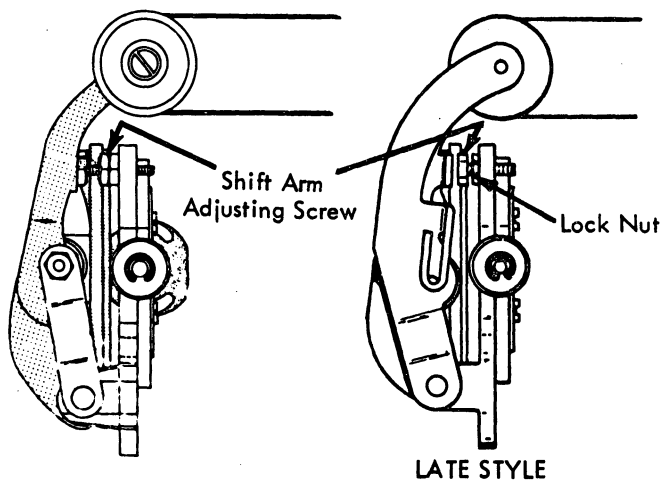

FIGURE 132. Shift Motion Adjustment
14. **Shift Motion** - The shift arm adjusting screw (Fig. 132) should be adjusted in or out to obtain 180° rotation of the typehead during a shift operation.